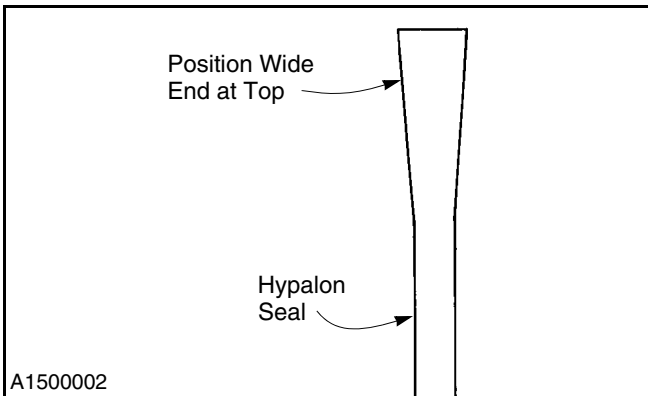

Figure 65
3. Install the new center seal. The wide end of the seal is positioned at the top. (See Figure 65.)